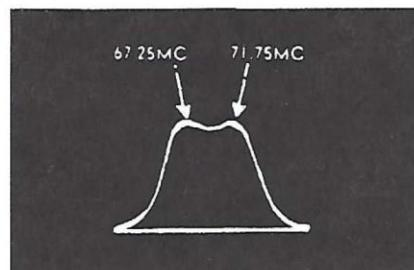

Fig. 12 Channel 4 RF Response, Bull's Eye Tuner
4. Turn the channel selector to channel 4 and adjust the sweep generator until a response curve somewhat similar to Fig. 12 is obtained.
5. Refer to Fig. 3 and adjust the converter grid capacitor, the RF plate capacitor and the RF grid capacitor until a response curve similar to Fig. 12 is obtained.